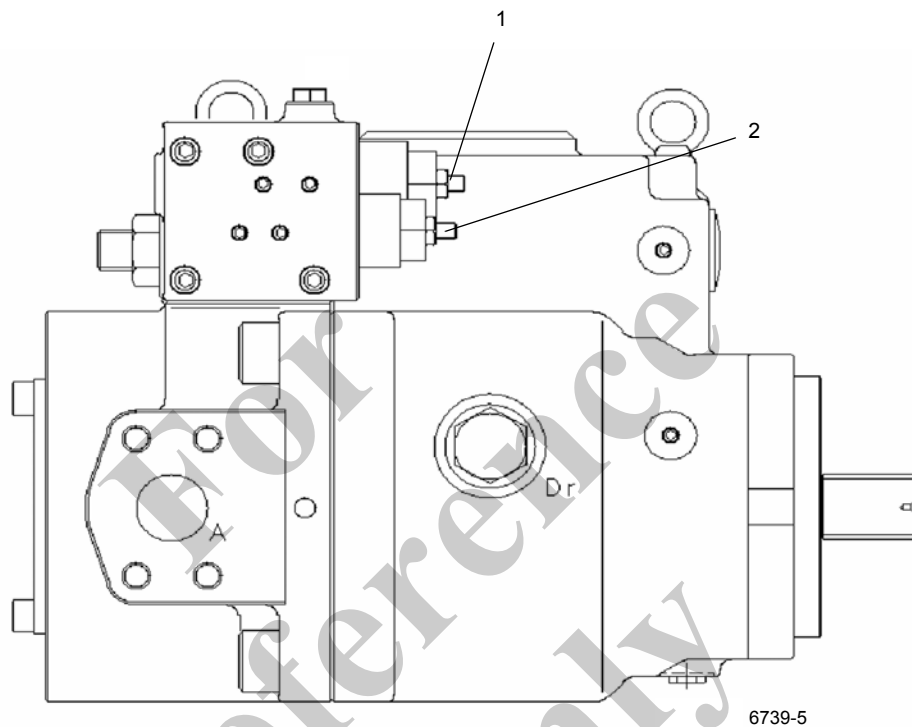

FIGURE 2-13
1. With the engine off, discharge all of the pressurized oil stored in the accumulators by depressing the service brake pedal on the cab floor 4-6 times. Remove the gas valve guard and cap on the accumulator (Figure 2-13)
2. Before attaching the gas charging assembly (Figure 2-13) onto the gas valve, back the gas chuck "T" handle all the way out (counterclockwise).
6. If the pressure is 5.5 - 5.9 MPa (800 - 850 psi), remove the charging valve assembly by turning the "T" handle all the way out on the gas chuck and then opening the bleed valve (Figure 2-13). If the pressure is low, see pre-charging procedure below.